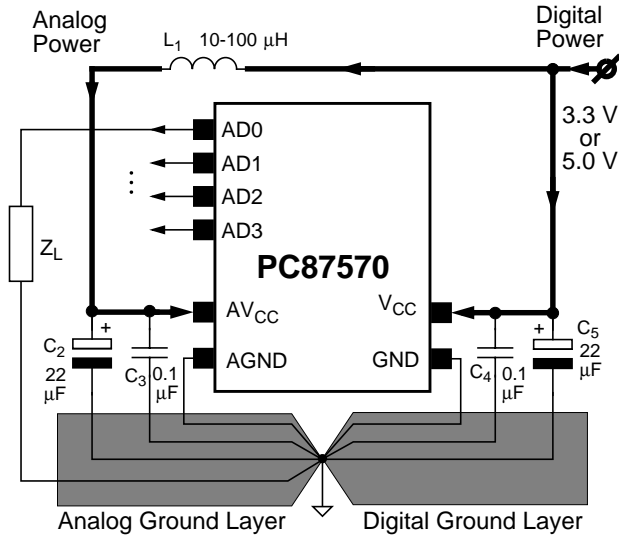

Figure 17-2. DAC Analog Power Supply Connection
The DAC and the other analog modules are supplied through two, dedicated analog power pins, AVCC and AGND. This assures effective isolation of the analog modules from noise caused by the digital modules. For the best performance, bear in mind the hints in this section (see also details in Figure 17-2):
**Power Connection.** The analog supply pin, AVCC, must be connected to a low noise power supply with the same voltage as the digital supply, either 3.3V or 5.0V. Both the digital and analog power supplies of the PC87570 must be supplied simultaneously. To assure this, supply the AVCC pin from the digital VCC of the chip, using an external LC or RC filter. An example of LC filter [L1 and (C2+C3)] is shown in Figure 17-2.